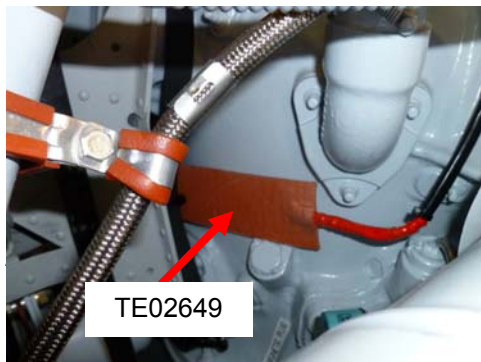

Figure 4-1.
- a. Determine element locations. (Descriptions below and Figures 4-1. thru 4-9.)
**4-4. Element Locations.** Following narratives and **Figures 4-1 thru 4-9. Element Locations.**
#### FIGURES 4-1 thru 4-9. Element Locations